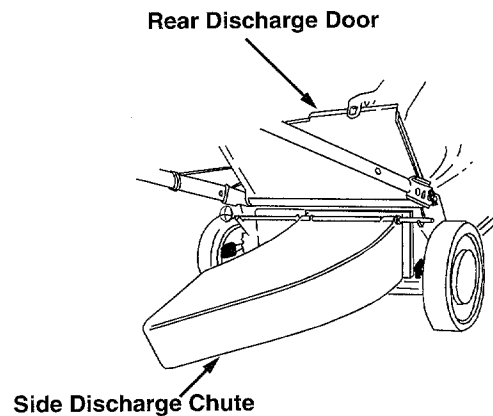

Figure 7
- **To attach side discharge chute:** Lift the discharge door and place the ends of the chute rod into the slot on each handle bracket assembly. Release the rear discharge door. See Figure 7.
- **To remove side discharge chute:** Lift the rear discharge door of the mower. Lift the side discharge chute up and outwards and pull it out of the slots on the handle bracket assemblies. Release the rear discharge door. See Figure 7.